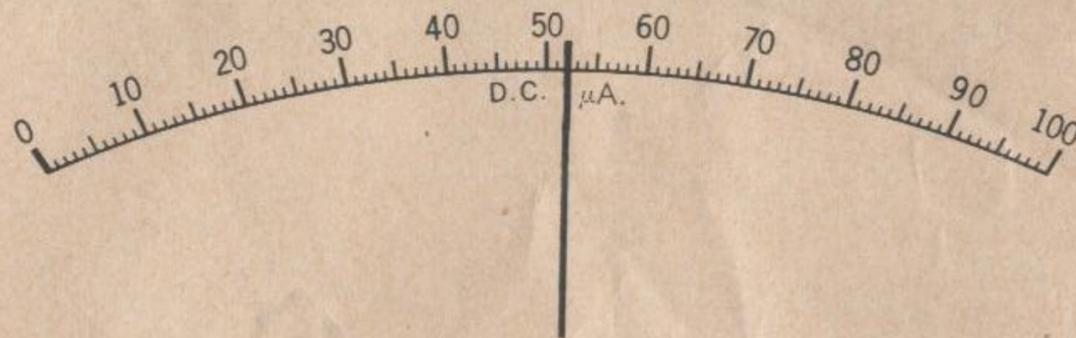

Figure 21—100 μ A. D.C. Scale
1. The 100 microampere range is calibrated in increments of 1 microampere. If for example the pointer was located as shown in Fig. 21, the meter would indicate that 52 microamperes of current is flowing in the circuit.